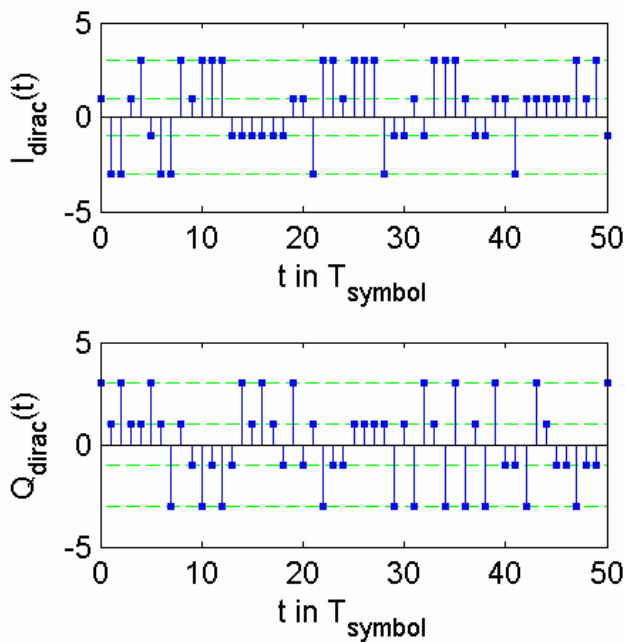
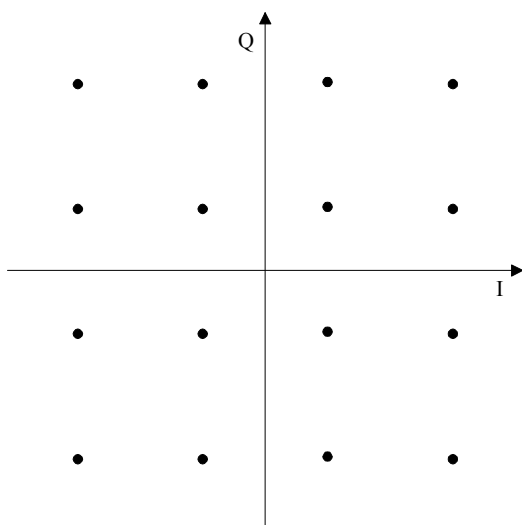
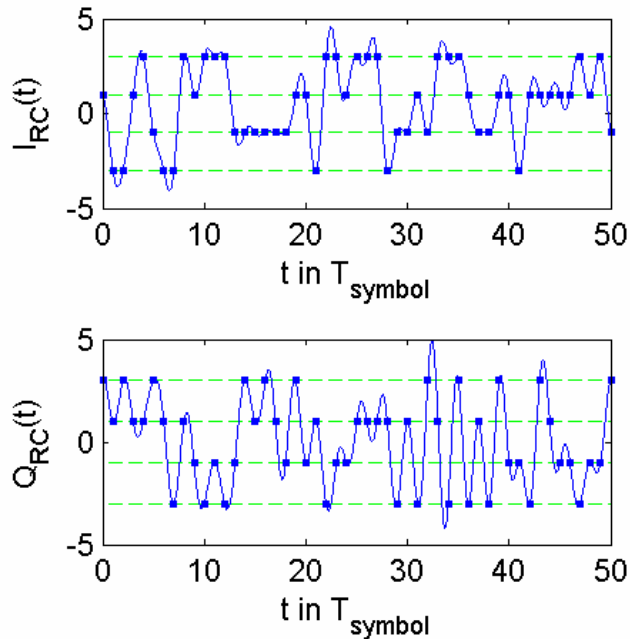

Fig. 2-45 Pulse signals  $I_{\text{dirac}}(t)$  and  $Q_{\text{dirac}}(t)$  for 16QAM
Fig. 2-46 16QAM constellation diagram
Fig. 2-48 Raised cosine filtered dirac signals  $I_{RC}(t)$  and  $Q_{RC}(t)$
The *symbol mapping* block transforms the digital information (bits) into the continuous signals  $I_{\text{dirac}}(t)$  and  $Q_{\text{dirac}}(t)$ .  $I_{\text{dirac}}(t)$  and  $Q_{\text{dirac}}(t)$  (see Fig. 2-45) consist of dirac pulses that appear at times  $t=n \cdot T_{\text{symbol}}$  and that can be distinguished by their in-phase "I" and quadrature "Q" levels. For example a 16QAM constellation has 16 different I and Q combinations and 4 different I and Q levels ( $4 \cdot 4 = 16$ ). Typically this is visualized in a constellation diagram (see Fig. 2-46). With  $16 = 2^4$  we are able to transmit 4 bits per symbol. Therefore we can calculate:
We notice that the symbol instants (highlighted with squares) are not on the horizontal lines (possible symbol levels) anymore. This is due to the inter-symbol interference introduced by the root raised cosine TX filter. Contrary to the signal filtered with two root raised cosine filters (TX and RX) the one filtered with a single root raised cosine filter (TX) does not satisfy the condition for zero inter-symbol interference. Fig. 2-48 shows the signal obtained by filtering the dirac signals with two root raised cosine filters. The convolution of two root raised cosine filters is also called raised cosine filter and it results in an overall inter-symbol interference free system. We observe that all symbol instants (highlighted with squares) of  $I_{\text{RC}}(t)$  and  $Q_{\text{RC}}(t)$  have exactly the same levels as the signals  $I_{\text{dirac}}(t)$  and  $Q_{\text{dirac}}(t)$  in Fig. 2-45. Please note that this is only true for the signals  $I_{\text{RC}}(t)$  and  $Q_{\text{RC}}(t)$  if there is no noise present in the receiver. In the case of noise points will turn into clouds, that is what can be seen in the Constellation Diagram measurement (modulation analysis).
Please note that the  $2\pi/4$  rad (90 deg) rotational symmetry of the QAM constellation (see Fig. 2-46) leads to an ambiguity in the calculation of the amplitude imbalance. Ambiguity means that the QAM demodulator of the Cable TV Measurements option has no knowledge of the absolute phase in the transmitter but chooses one out of four possible phase angles (0,  $\pi/2$ ,  $\pi$ , or  $3\pi/2$  rad). It can be shown that the phase ambiguity leads to two possible amplitude imbalance values. For the amplitude imbalance the ambiguity can be resolved by using the definition as follows: